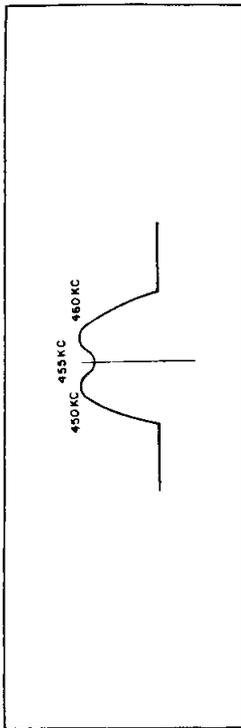

Figure 6. Alignment Waveform.
Move the sweep generator to pin 2 of V3. Adjust alignment points C (T2 secondary) and D (T2 primary) for a symmetrical signal the same as shown in figure 6.
- 10.7 MC IF Alignment. - Reset the sweep generator to exactly 10.7 MC and connect the RF output from the sweep generator to pin 2 of V2. The signal presentation on the oscilloscope will resemble that shown in figure 6, except it will be centered around 10.7 MC. Adjust alignment points E (T1 secondary) and F (T1 primary) until the scope presentation is symmetrical and the 10.7-MC marker is exactly centered.
- 455-KC IF Alignment - Connect sweep generator horizontal output to horizontal connection on oscilloscope. Connect RF output from the sweep generator to pin 1 of V4. Set sweep generator frequency to 455 KC. Connect probe from vertical connection on oscilloscope to pin 9 of V6. Adjust alignment points A (T3 secondary) and B (T3 primary) until the signal on the oscilloscope is the same as that shown in figure 6.